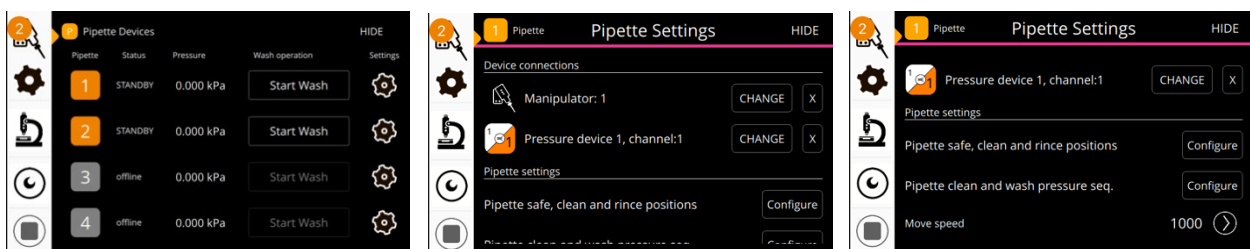

Figure 12. *Pipette Devices* list and *Pipette Settings* menu.
1. Enter the pipette cleaning configuration view (Figure 12) by long-pressing the pipette cleaning symbol in the uMp-TSC2 main view (Figure 3).
3. To configure a *Pipette Device*, tap cogwheel at its row to open the *Pipette Settings* menu (Figure 12).
6. Configure *Pipette Safe, Clean and Rinse positions* by tapping the *Configure* button (Figure 12).
10. To configure *Pipette Clean and Rinse Pressure Sequences*, tap the *Configure* button in the *Pipette settings list* (Figure 12).